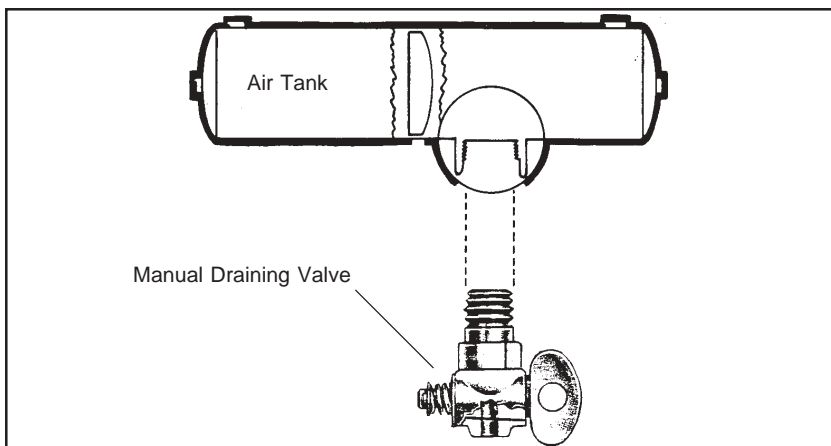

Figure 5-1
- manually operated by turning a quarter turn, shown in Figure 5-1, or by pulling a cable. You must drain the tanks yourself at the end of each day of driving;